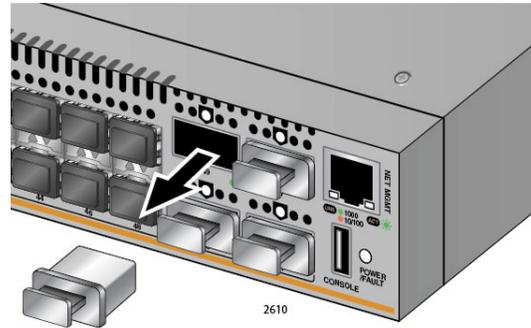

Figure 31. Removing QSFP+ Slot Dust Cover
2. Remove the dust cover from the chassis QSFP+ slot. See Figure 31 on page 62.